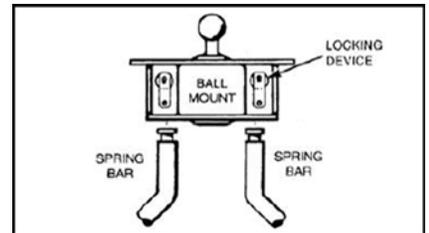
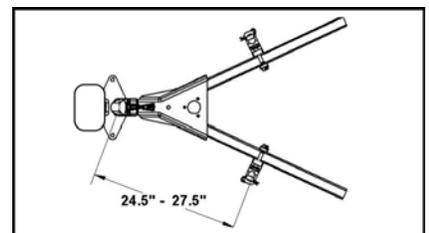

Figure 10: WD spring bars attached to head through socket and secures with clip.
Figure 11: L brackets can be installed between 24-1/2" to 27-1/2".
•To remove Spring Bars, just swing bar around under the bumper and it will drop free (see Figure 10).
•Position inner ⑭ and outer frame brackets ⑮ 27.5" from the center of trailer coupler with bolt ⑫ through the top bolts as shown. Snug nut ⑬ to the back of the inner frame bracket ⑭. Insert lower bolt ⑫ with serrated washer ⑯ through inner frame bracket ⑭ as close to the underside of the trailer frame as possible, and snug bolt. Torque both bolts to 130 ft lbs. Note that brackets can be positioned up to 3" towards truck from nominal to clear objects on frame, but this may interfere with mounting for a friction sway bar.
•Orient L bracket ⑪ so that the bottom portion of the bracket is ~3" above the unloaded spring bar. Secure the L bracket ⑪ to outer frame bracket ⑮ using 2 bolts ⑰ and lock washers ⑱. Bolts should be spaced with either 1 or 2 open holes between them (do not put both bolts next directly next to each other). Be mindful to not use the threaded hole that bolt ⑫ has used. Torque bolts ⑰ to 80 ft lbs.
•Installing and removing spring bars onto L brackets: extend trailer jack until spring bar ends are above the L brackets. Adding a 6" x 6" block or support under the jack will make extension and raising the trailer faster and protect the jack from being extended to max travel. The higher you raise the trailer the easier to install or remove spring bars from L brackets. Swing spring bars on to L brackets as close to trailer frame as possible. Secure the spring bars by dropping in covers ⑱. Then secure the covers ⑱ using the pins ⑲ (see Figures 11 & 12).